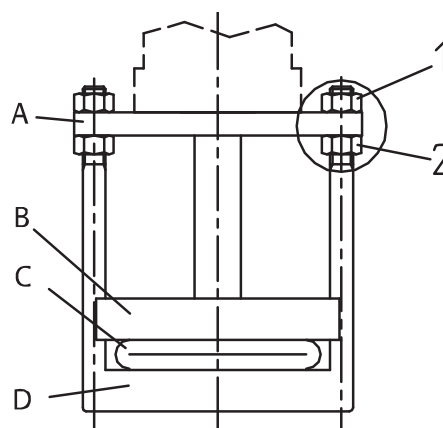

Fig. 10.
- Close the valve by using the actuator. Adjust the pinch bars parallel to each other with the nuts, which are on both sides of actuator fixing plate (Fig. 10, nuts 1 and 2), so that from one end of the sleeve an even, narrow light strip (appr. 0.5 mm) is shown on the whole squeezed point of the sleeve or symmetrically on both sides (Fig. 10.1).
- Tighten both nuts (1) equally so, that the strip of light disappears.